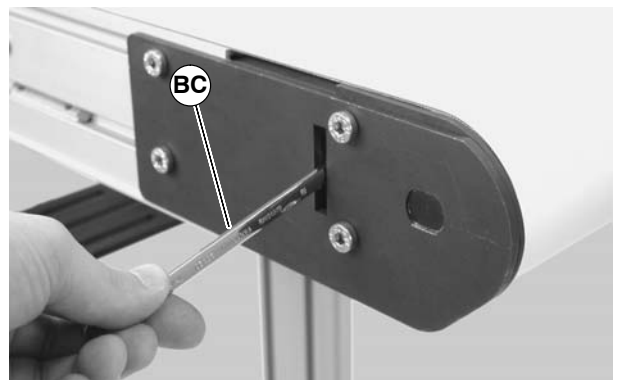
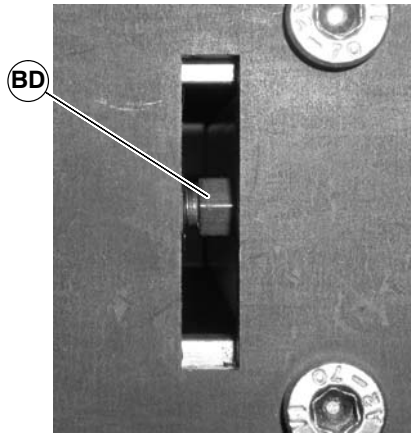

Figure 42
Figure 43
3. With the conveyor running, use wrench (BC of Figure 42) to rotate the tracking screw (BD of Figure 43) in small increments until the belt tracks in the center of the conveyor.